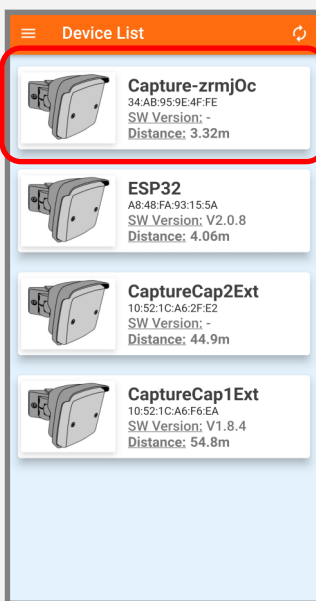

Fig 1
- 1) After opening the app, select your device from the list. Fig 1